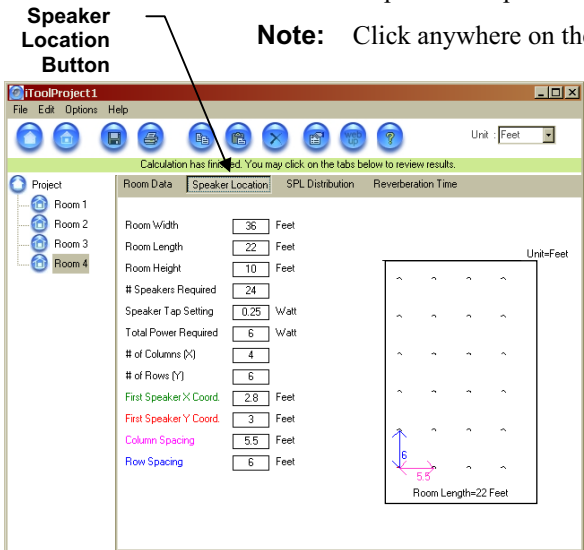
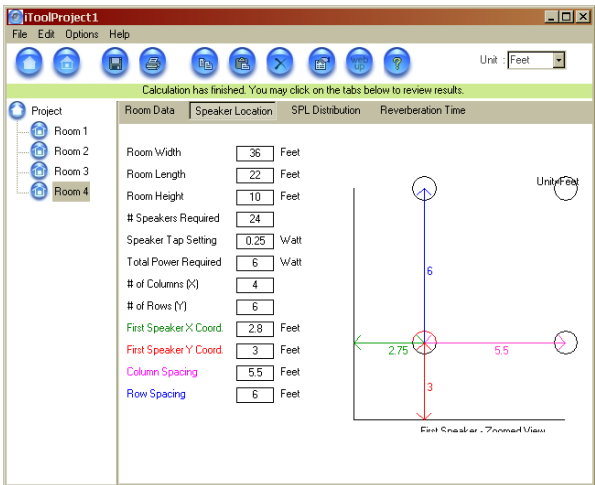

Figure 18. Speaker Location Guide
Figure 19. Close-up of Speaker Plot
- 9. Click the “Speaker Location” button to view a plot of speaker locations for Room 1 (Figure 18).
- 10. Drag the magnifying glass cursor over any of the individual speaker plots and click to zoom in on a particular speaker (Figure 19). Row and column spacing are provided.
Note: Click anywhere on the plot in Figure 19 to return to the previous view in Figure 18.